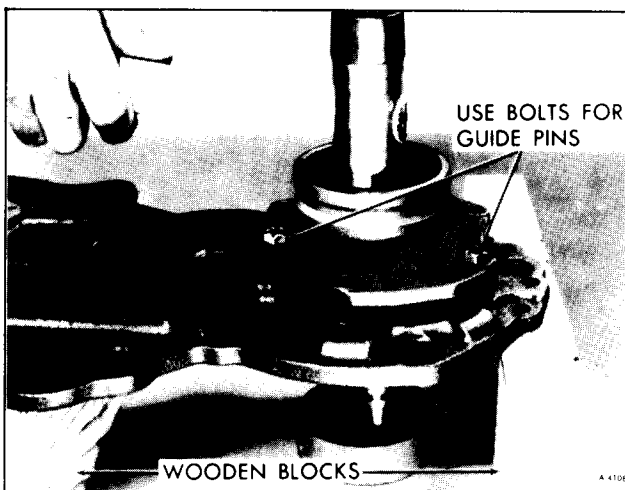

Figure 40—Installing Drive Sprocket Support
- g. Install drive sprocket support housing into pump cover plate by using a plastic mallet to seat the housing. Use bolts for guides, Figure 40.